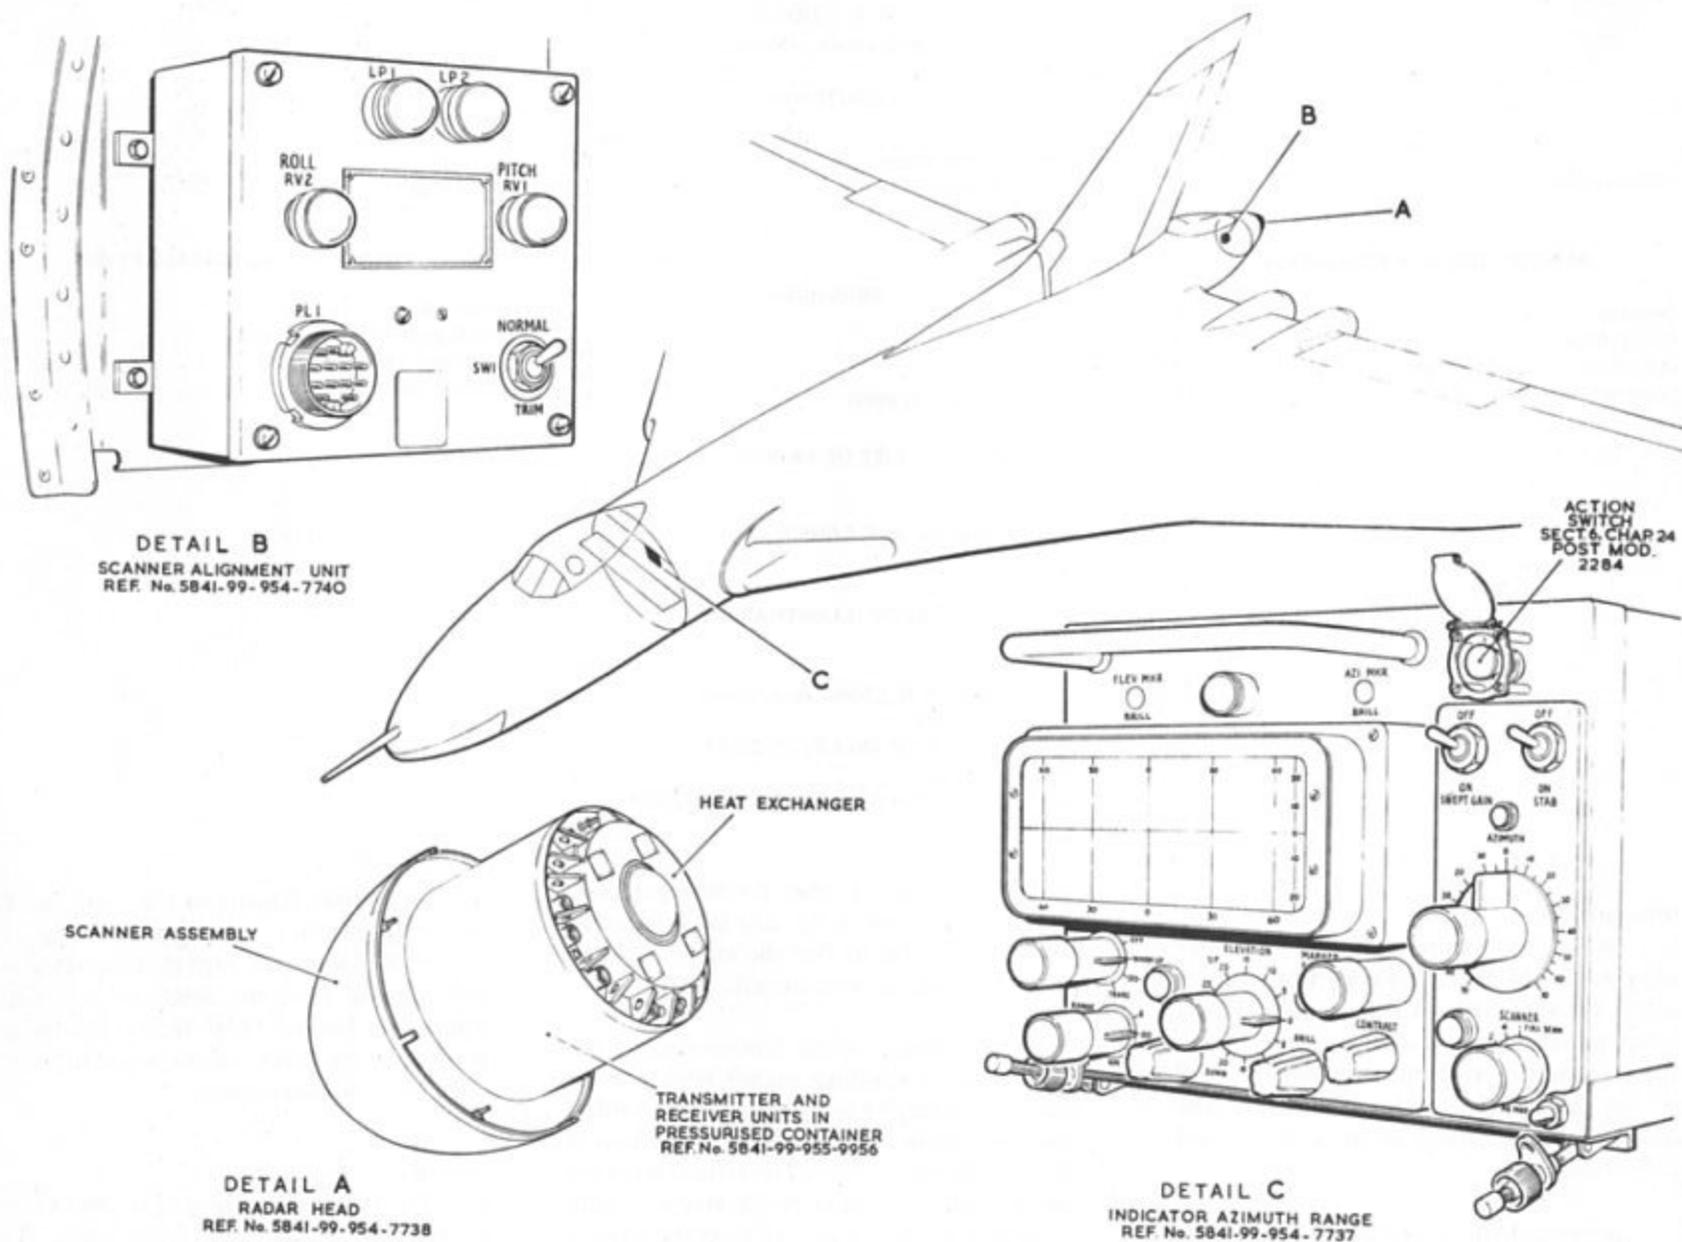

Fig. 1. Location of A.R.I. 5952 equipment.
6. The radar head is mounted at the extreme end of the rear fuselage structure, the radome covering the scanner forming the tail cone of the fuselage as shown in fig.1. The head consists of a pressurized cylindrical canister in which is mounted the scanner assembly, together with the transmitting and receiving units.